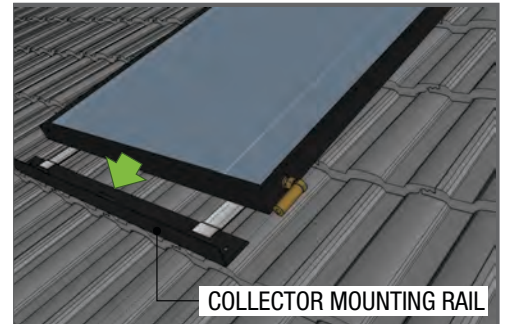

Fig 6
3. Position the collector/s on the collector mounting rail (Fig 6)